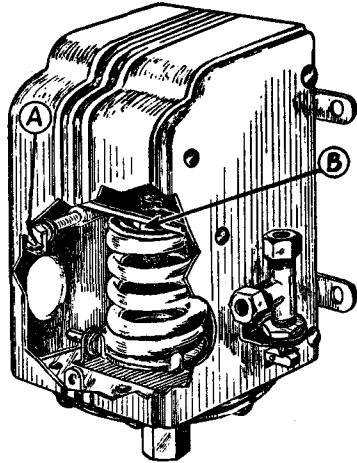

Fig. 1—Exterior View 110 Series with Built-in Magnetic Unloader.
**SETTING:** This control was set at factory as specified by buyer. To raise opening point, increase tension on range spring by turning adjusting nut "B" to right (clockwise) (Fig. 1). Closing point will be raised a corresponding amount. By decreasing tension on range spring, both opening and closing points will be lowered a like amount.
**DIFFERENTIAL: CONSULT CHART BELOW WHEN MAKING DIFFERENTIAL ADJUSTMENTS. DO NOT ADJUST DIFFERENTIAL CLOSER THAN MINIMUM SPECIFIED.** Differential (difference between opening and closing points) set at factory as specified by buyer. To widen differential, turn adjusting screw "A" to right (clockwise) (Fig. 1). Turn screw "A" to left (counterclockwise) to make differential closer. **NOTE:** When differential is widened, the opening point is raised and the closing point is lowered. Conversely, when differential is narrowed, the opening point is lowered and the closing point is raised.